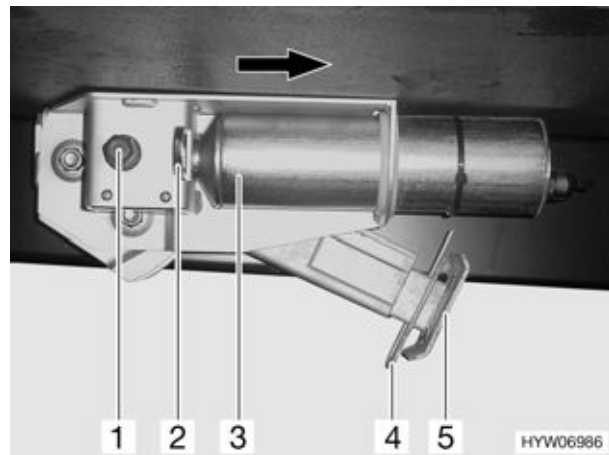

Fig. 22 Electrical steady leg
- Remove the splint (Fig. 22,4) out of the support foot extension (Fig. 22,5).
- Press the securing bracket (Fig. 22,2) inwards.
- Push the motor in the direction indicated (Fig. 22,3) as far as it will go.
- Fold the steady leg out or in like a mechanical steady leg via the hexagonal nut (Fig. 22,1).
- Pull out the securing bracket (Fig. 22,2) until it engages.